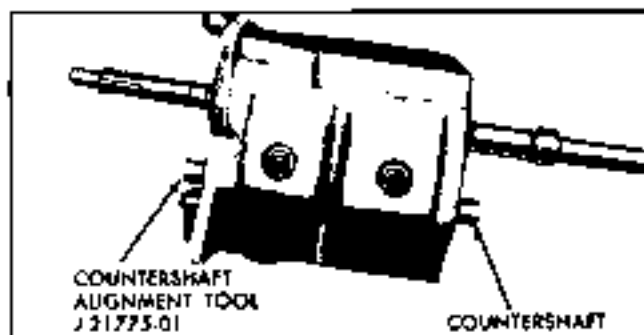

Fig. 7A-9 Removing Countershaft
7. Position input shaft in press (Fig. 7A-13), support the bearing by the inner race and press the shaft into the bearing.